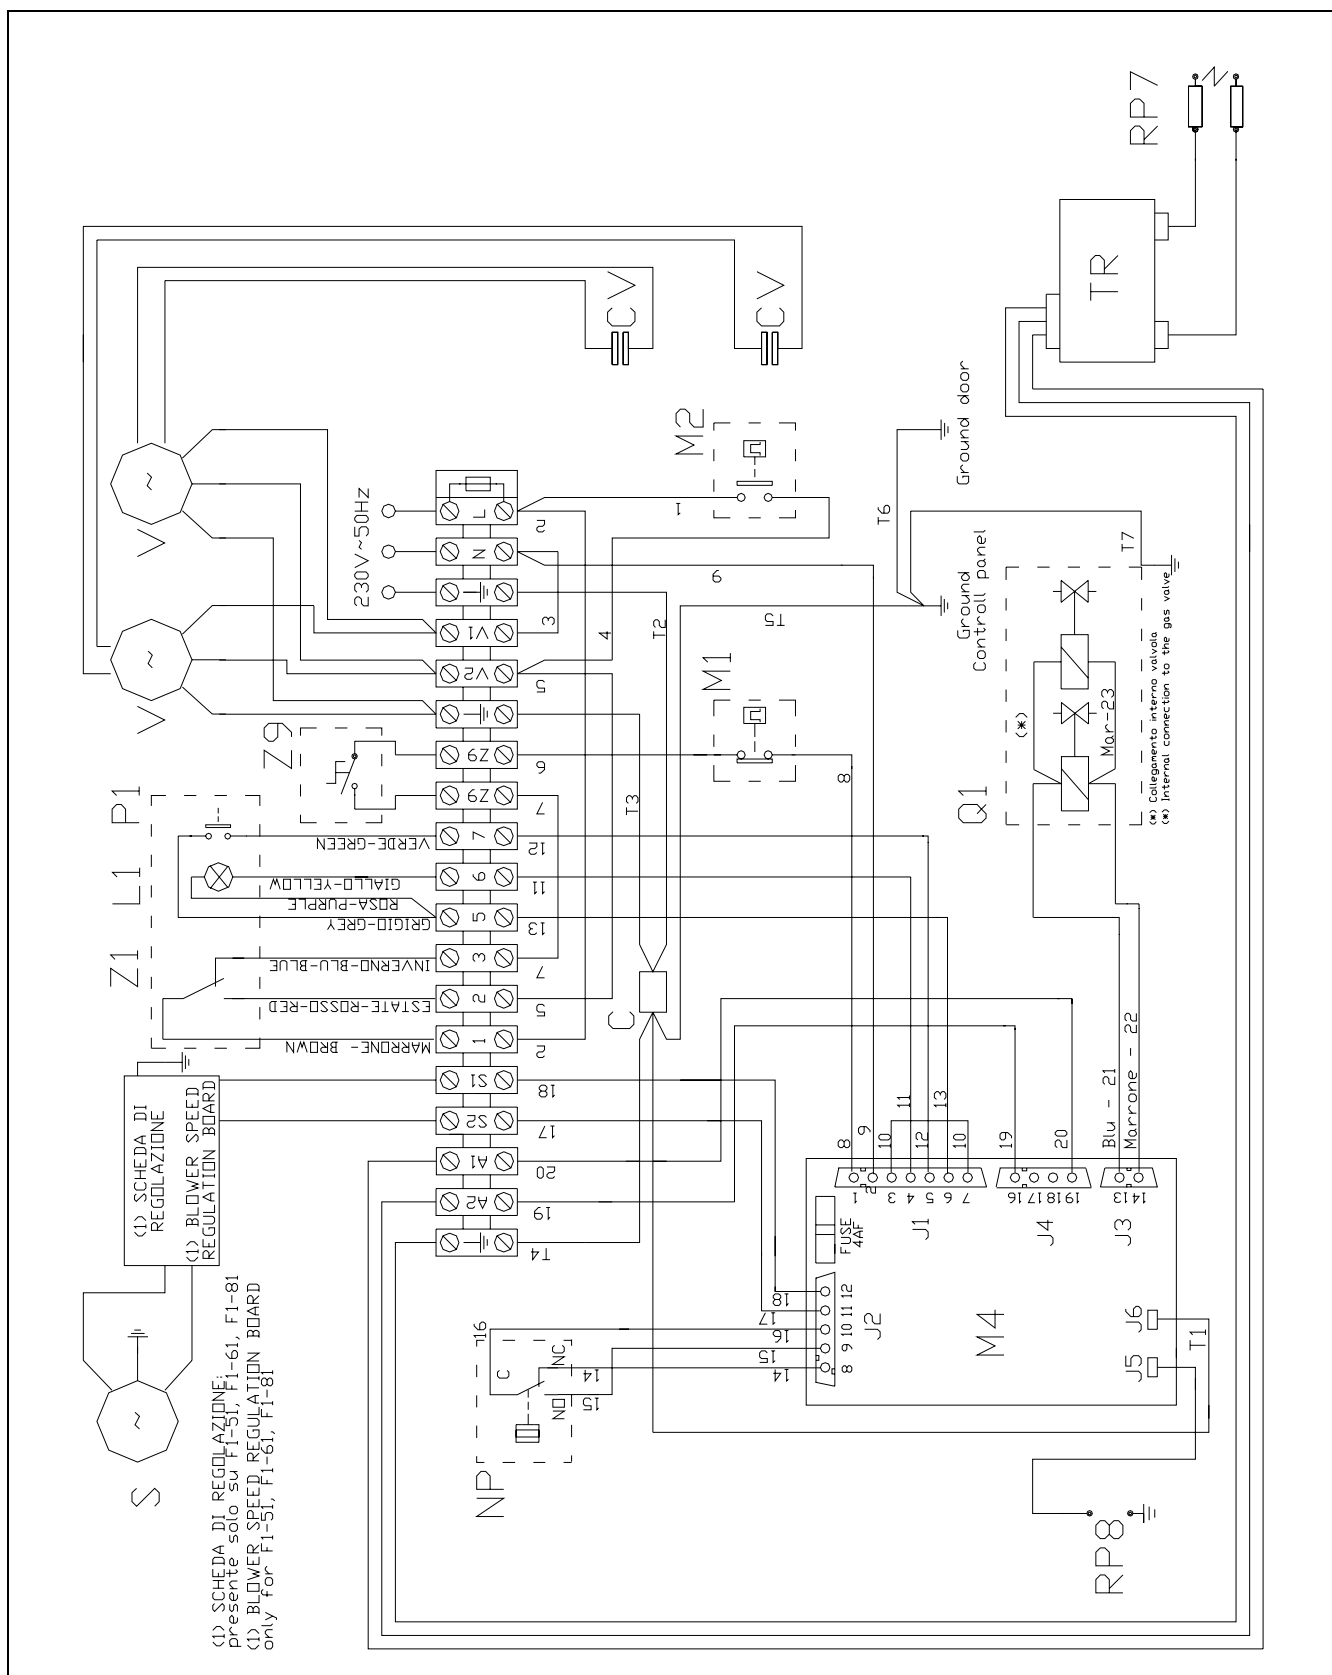

Figure 19
- Connect the cables of the terminal board inside the unit following the indications given in the installation diagram (see figure 19)